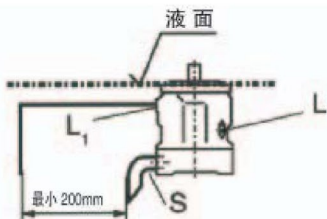

图 1
a) 当油箱的最低液面高于或等于安装法兰面时，将“L”堵死，而将“L₁”和进油口“S”打开，建议按图 1 配管。
- If the minimum fluid level is equal to or above the pump mounting face close port "L" plugged, leave ports "L₁" and "S" open; L₁ piped and recommendation S piped (see Fig.1).